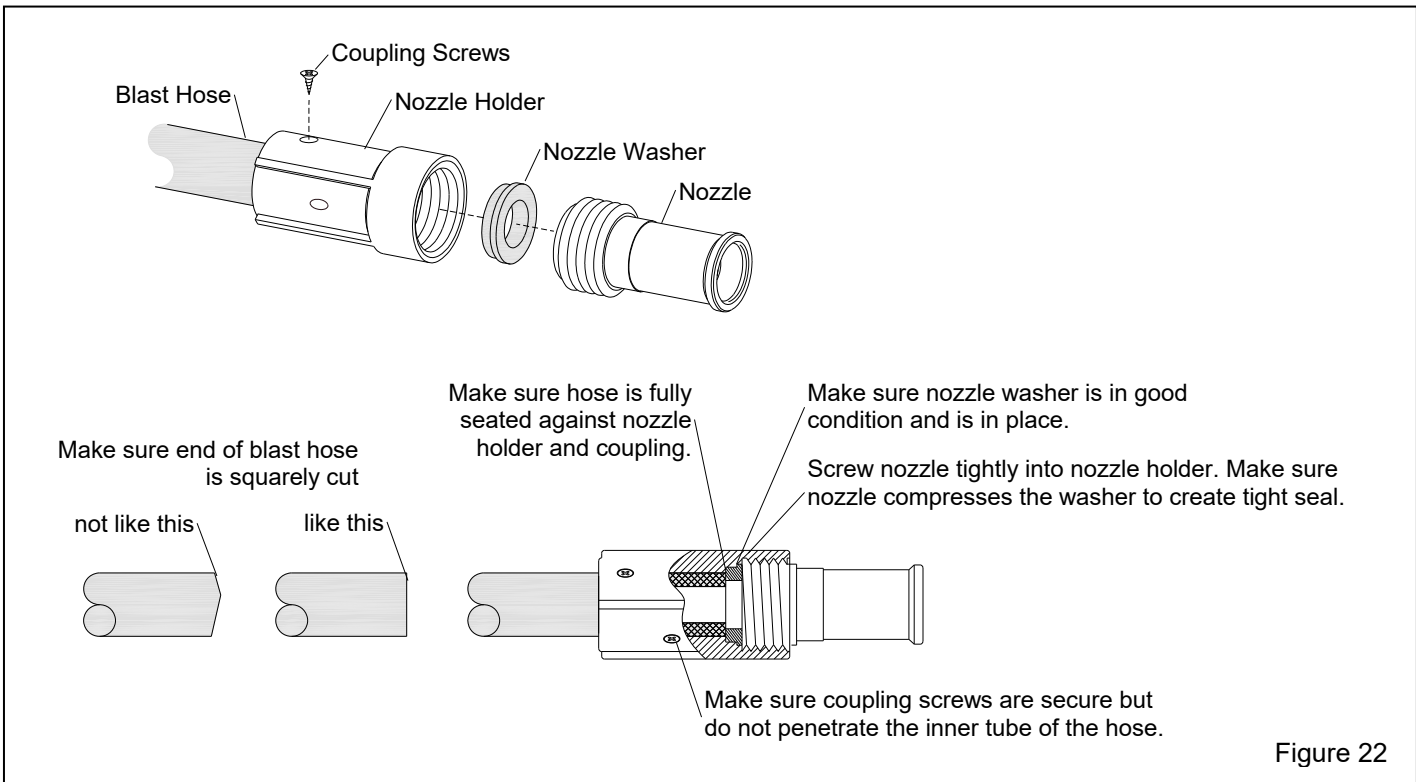

Figure 22
7.2 Blast Hose and Nozzle – Figure 22
7.2.2 When replacing blast hose, make sure the hose is square cut and that it is fully inserted into the nozzle holder and coupling until it sits tightly against the shoulder in the holder and coupling, as shown in Figure 22. Make sure correctly sized screws are used to secure the nozzle holder and blast-hose coupling. Screws should not penetrate the inside of the blast hose.